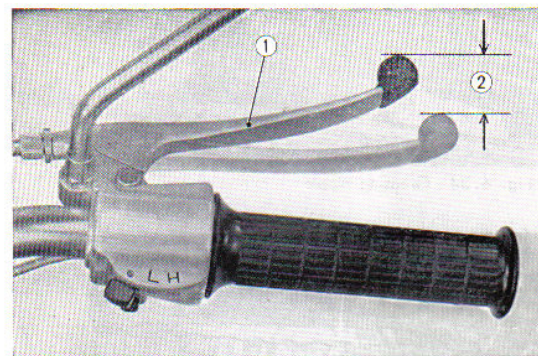

Fig. 6.37 Front brake lever play
- amount the front brake lever ① must be moved before the brake starts to take hold. The lever free play ② should be 15~30 mm (0.6~1.2 in) at the end of the brake lever.
- b. If the brake requires adjustment, there are two places where this adjustment can be made. Normally the adjustment can be made at the brake lever arm ① on the front brake panel. First, loosen the lock nut ② and then turn the adjusting nut ③. Turning the nut ③ in the clockwise direction A will decrease the brake lever play and turning in the counter clockwise direction B will increase the play.
- c. Minor adjustment can also be made with the circular adjusting bolt on the front brake lever by turning in the same direction as above. (Fig. 6.37, 38)